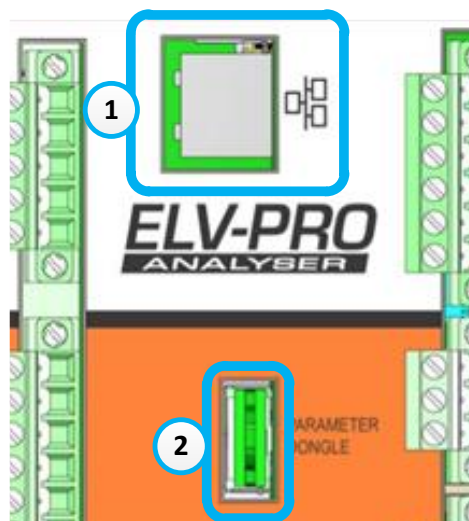

Figure 4.15: Ethernet and Dongle Connections
The ELV-PRO has a dedicated dongle input, item 2 of Figure 4.15. The dongle is keyed and therefore has a specific orientation. Refer to Figure 4.14.
The ELV-PRO has an Ethernet socket to allow the ELV-PRO to be connected to a network switch or directly to a PC or Ethernet device, see item 1 of Figure 4.15.